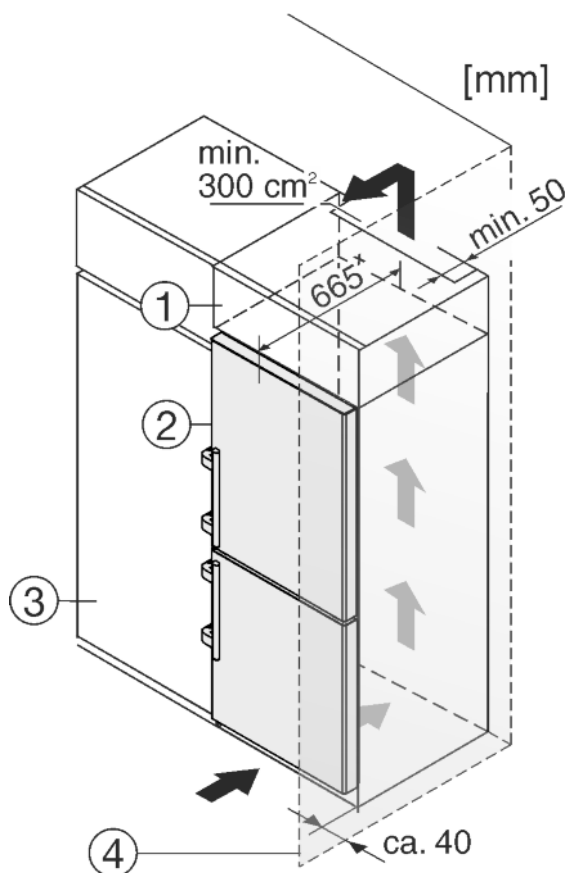

Fig. 41
- (1) Stack cabinet
- (2) Appliance
- (3) Kitchen cabinet
- (4) Wall
The appliance can be inserted into a row of kitchen units. To match the appliance *Fig. 41 (2)* to the height of the row of units, a suitable stack cabinet *Fig. 41 (1)* can be fitted above the appliance.
When retrofitting with kitchen cabinets the appliance can be installed directly next to the cabinet *Fig. 41 (3)*. So that the doors can be opened fully the appliance must be stick out at least 65 mm* from the front of the cabinet. The appliance may protrude further depending on the depth of the kitchen cabinets and if wall spacers are used.
If the appliance is installed with the hinges next to a wall *Fig. 41 (4)*, the distance between appliance and wall has to be at least 40 mm. This corresponds to the projection of the handle when the door is open.